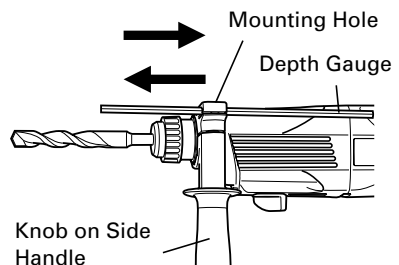

Fig. 11
(2) Driving in wood screws
6. Using depth gauge (Fig. 11)